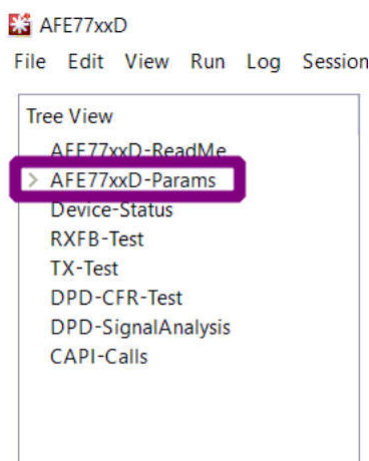

Figure 4-5. Navigating to AFE77xxD-Params
- After the Latte software goes through its initialization steps, go to the AFE77xxD Params tab by clicking on AFE77xxD-Params on the left panel of the software window. Figure 4-5 shows how to navigate to the respective tab on the software panel.